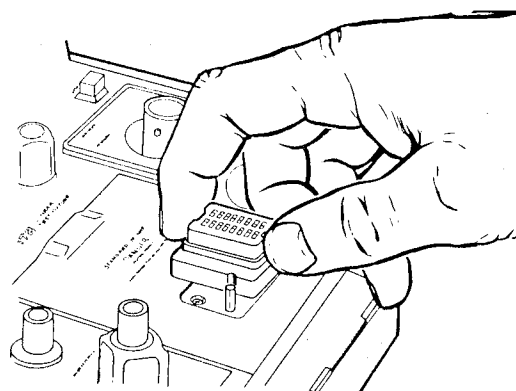

Figure 0-5 Installing device card adapter in socket.
- d) Install adapter — Install device adapter into socket on device card. See Figure 0-5.